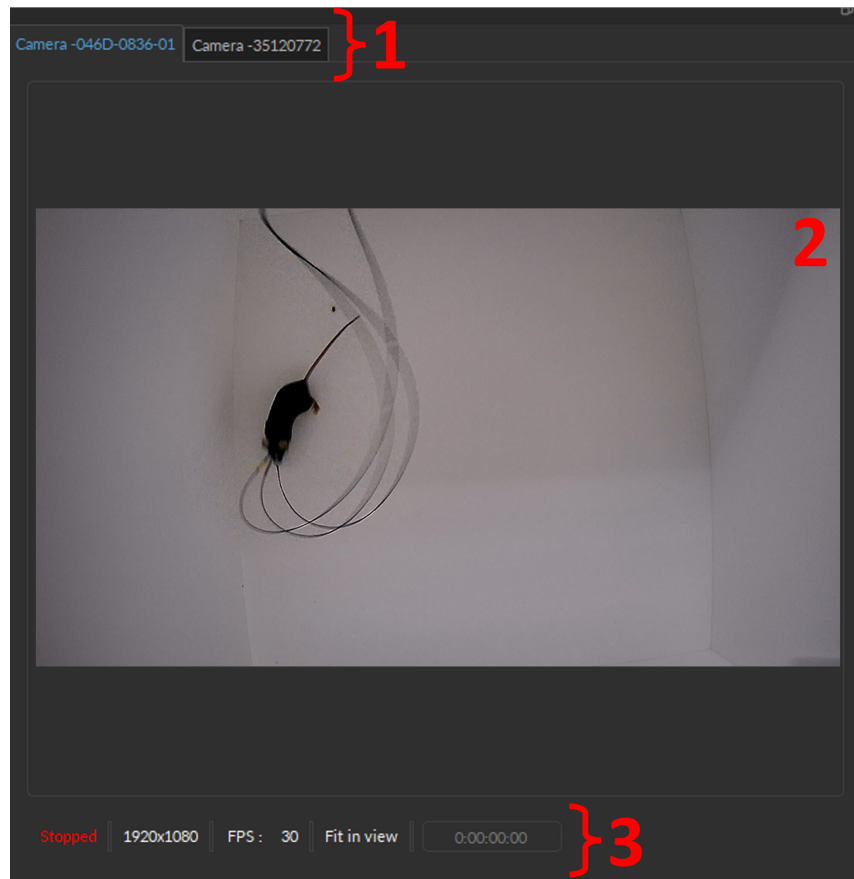

Figure 11.19: Camera View
1. The **Sensor Tabs** (Fig. 11.19, 1) allows users to select which **Camera Channel** (if there are more than one camera channels) to view since only one **Camera Feed** can be displayed at a single time.
2. The **Camera Feed** (Fig. 11.19, 2) displays the video footage of the selected **Camera Tab** (in blue). Toggle between the Tabs to see the video feed from a different camera.
3. The **Live Monitoring Bar** (Fig. 11.19, 3) tracks the current parameters of the camera, including: